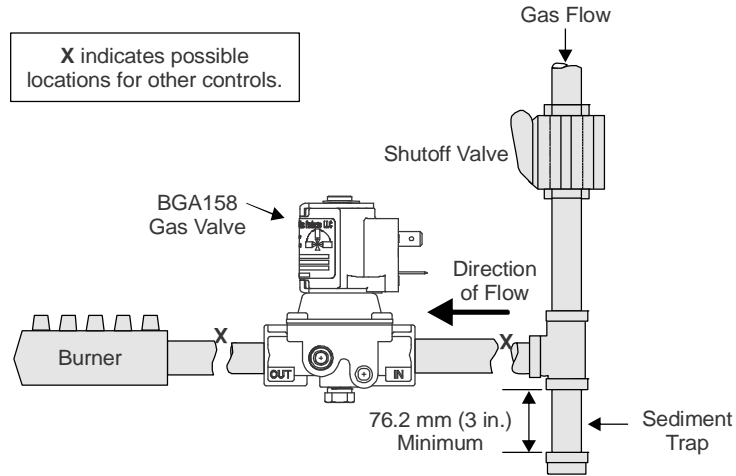

Figure 3: Typical BGA158 Installation
8. Installer must be a trained, experienced, flame safeguard control technician. Threads of the pipe and nipples must be smooth and free of tears and burrs. Steam clean all piping to remove foreign substances such as cutting oil or thread chips. A sediment trap should also be installed in accordance with the National Fuel Gas Code NFPA 54 (see Figure 3). Mount the valve to the pipework, use a quality rated pipe tape, UL listed seal material rated for gasoline, propane, and other gases. If not available, a quality grade pipe dope, a light amount on the male threads, starting two threads away from the first engaging thread. If pipe dope lodges on the valve seat, it will prevent proper closure. Remove excess compound after mounting the valve to the pipework.